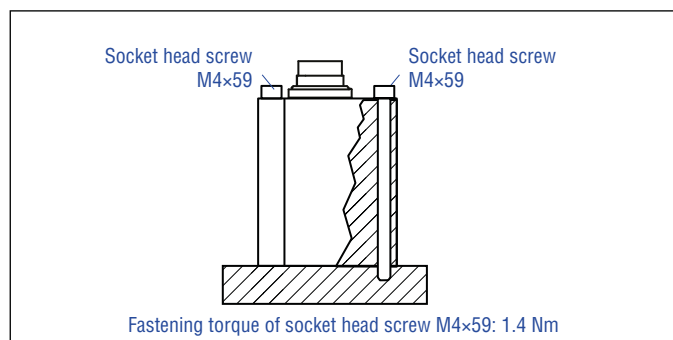

Fig. 14: Mounting with socket head screws M4x59
- Mount the sensor electronics housing by means of 3 non-magnetic socket head screws M4x59. Fastening torque: 1.4 Nm (Fig. 14). Secure the screws, e.g. using Loctite 243, before re-installing.